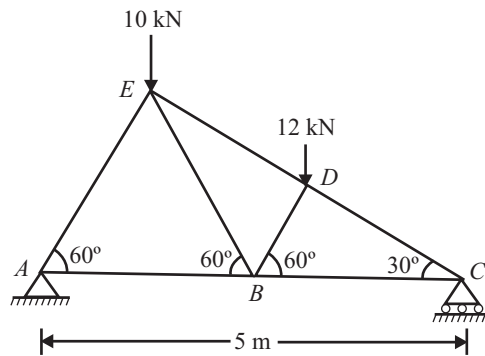

Fig 13.14
Q. 11: Determine the forces in all the members of the truss loaded and supported as shown in fig 13.14.